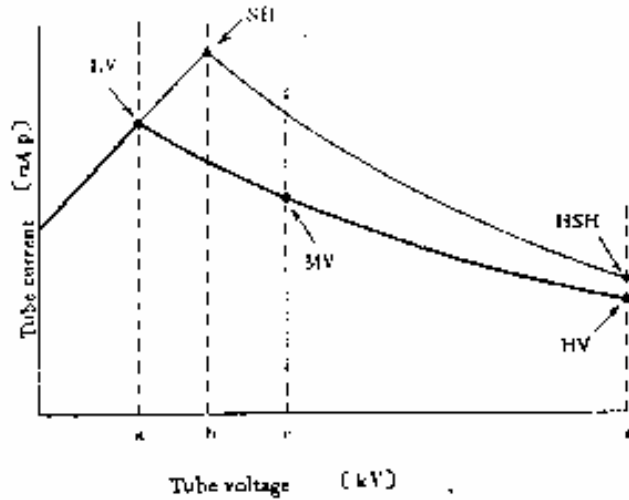

Fig. 3-5-5
- (1) Figure 3-5-5 represents the radiographic rating chart of X-ray tube.
- a. While the tube voltage is lower than point a, the filament current remains constant. However, as the tube voltage goes lower, the emission of X-ray tube is worsened and the tube current decreases as shown in Fig. 3-5-5. This value can be adjusted by variable resistor "LV".